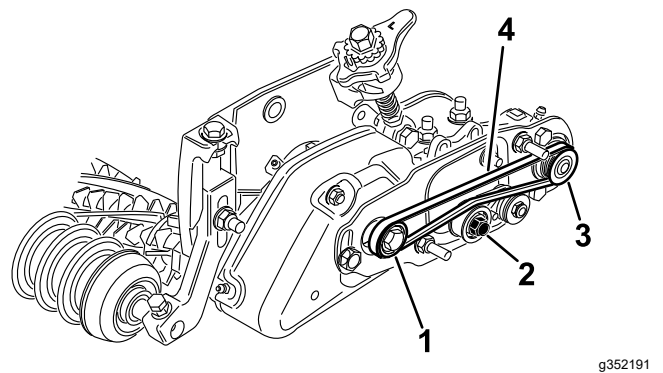

Figure 32
- Loop the belt around the **driven** pulley and then over the top of the idler pulley (Figure 32).
- Start the belt on the **drive** pulley (Figure 32).